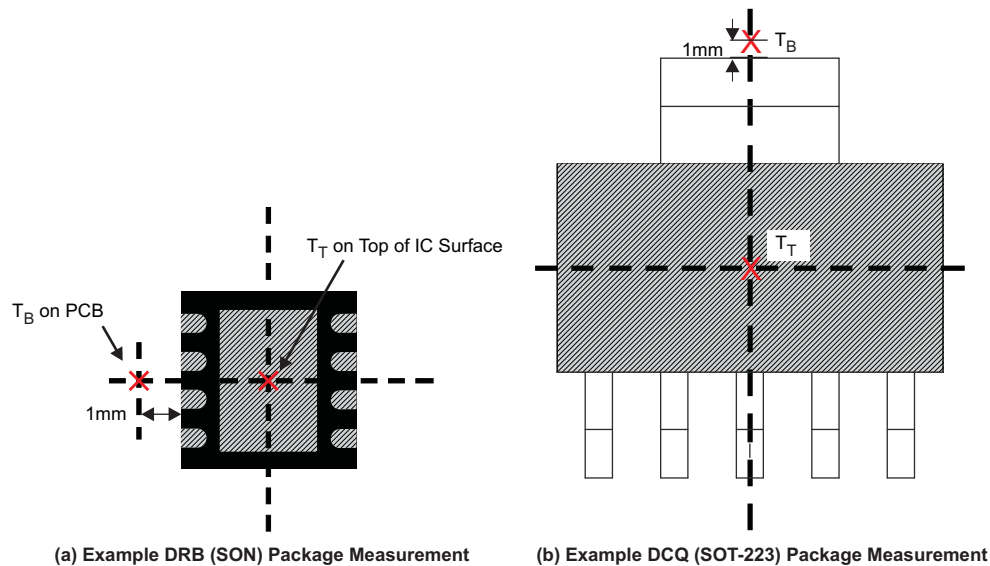

Figure 31. Measuring Point for T_T and T_B
- T_B is the PCB temperature measured 1 mm away from the IC package on the PCB surface (see Figure 31) (6)